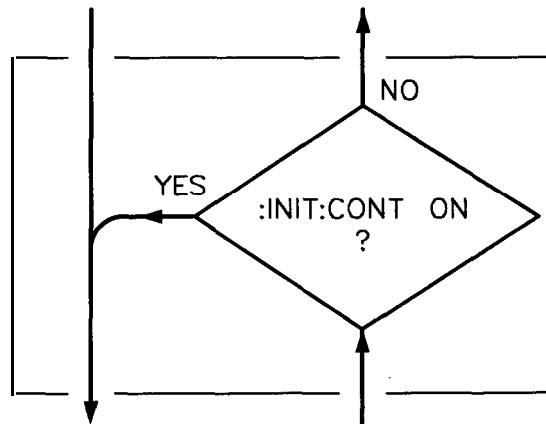

Figure 1-37. Inside the Initiate State
**Inside the Initiate State.** Figure 1-37 illustrates the operation of the **initiate** state.